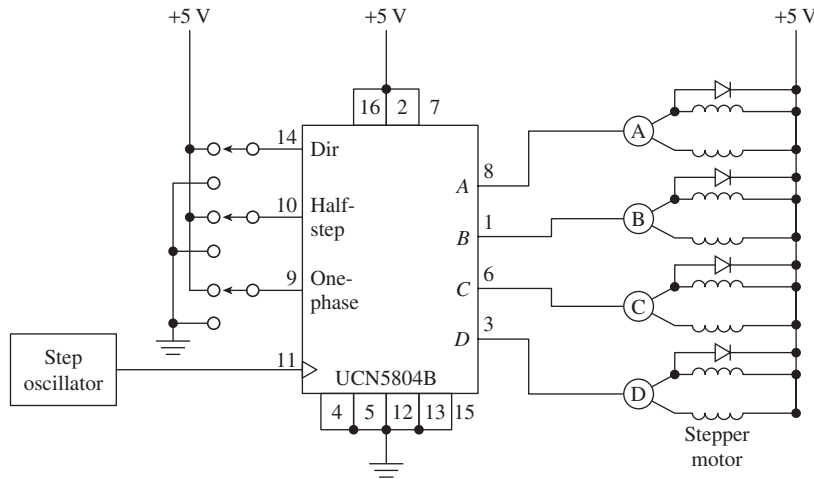

Figure 13–29 Typical wiring for the UCN5804B stepper-motor driver.
Figure 13–29 shows the typical wiring for a UCN5804B driving a stepper motor. The four output pins are labeled *A*, *B*, *C*, and *D*. Each output is capable of sinking up to 1.5 A so external power transistors are not required. Because the outputs are sinking, then the coils need to have a common connection to V_{CC} as shown (instead of ground). Changing the level on the *Direction* pin provides clockwise/counterclockwise direction control. The step input can be any TTL-level oscillator whose frequency is used to set the rotation speed of the stepper motor.
- 13–14.** The traffic light controller of Figure 13–20 flashes the yellow light at night because the level at the collector of the phototransistor is _____ (LOW, HIGH), which _____ (enables, disables) the AND gate.
- 13–15.** What circuitry is responsible for parallel loading a 1 into the first flip-flop of Figure 13–20 at the beginning of each day?